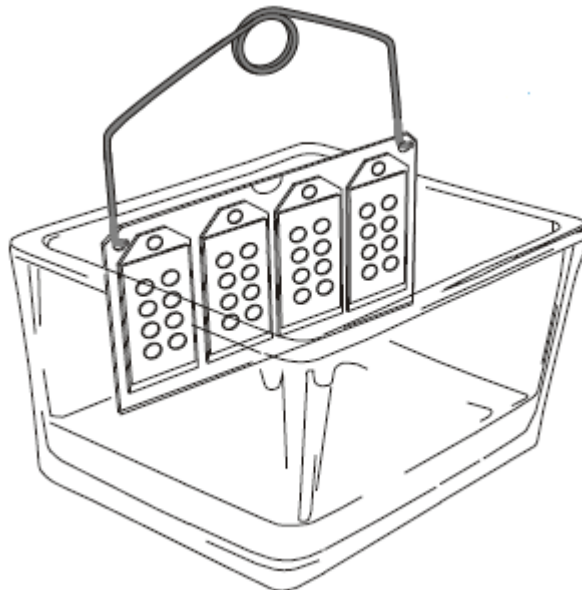

Figure 6
6. Coverslips may be stained and washed using conventional staining dishes by attaching a stainless steel handle to the insert frame as shown in Figure 6.